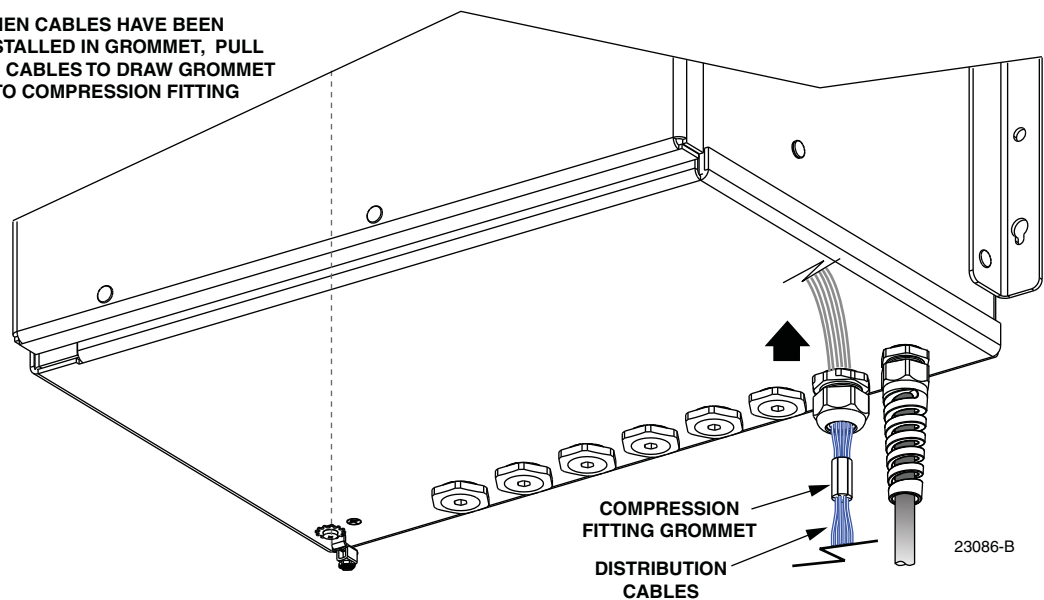

Figure 55. Install Distribution Cables in Grommet
9. Install each distribution cable into the compression fitting grommet as shown in Figure 55.